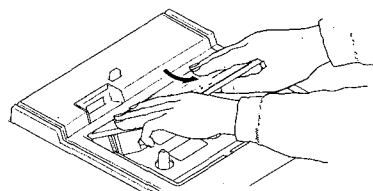

FIG. 2
2. Remove cassette lid by sliding while holding the rear side in the direction of arrow, as shown in Fig. 2.